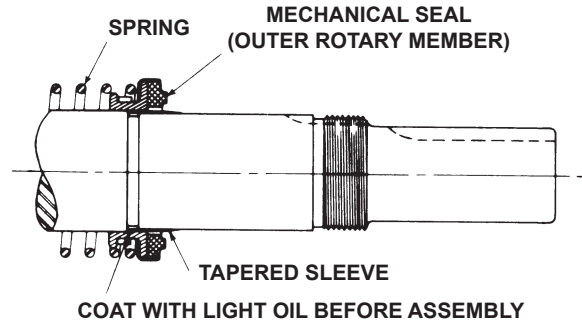

FIGURE 14
8. Place the tapered installation sleeve (furnished with replacement seals K-LL size) on the shaft as shown in figure 14.